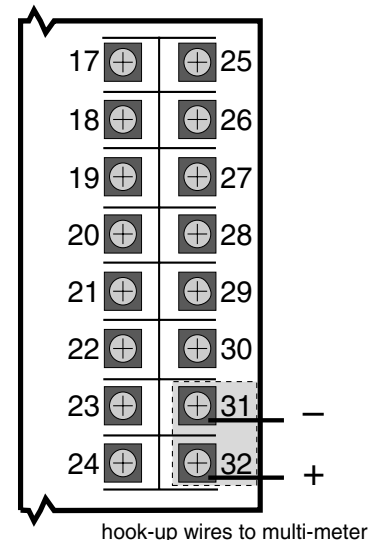

Figure D.3
4. Connect the hookup wire, as shown in Figure D.3, to terminals 31 and 32. The hookup wire connects to the multimeter. Set the meter for DC volts. Make sure the screws are tight.